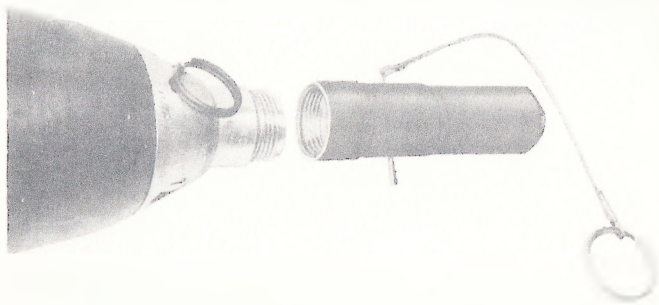

Fig. 32. Relationship of the driver to the fuze.
- Remove rocket driver from metal container and screw onto head of shell fuze (fig. 32).
The rocket shell driver (fig. 32) is used to propel the round through the tube and against the fixed firing pin. It is used at elevations (below 200
a. Delay fuze E45. This fuze is the standard M4 delay fuze used with standard 4.2-inch chemical mortar shell, excepting the head assembly which has been modified to receive the rocket driver (fig. 32). Details of construction of the standard M4 fuze are given in TM 3-320. Total weight of fuze, loaded and completely assembled, is approximately 1 pound.